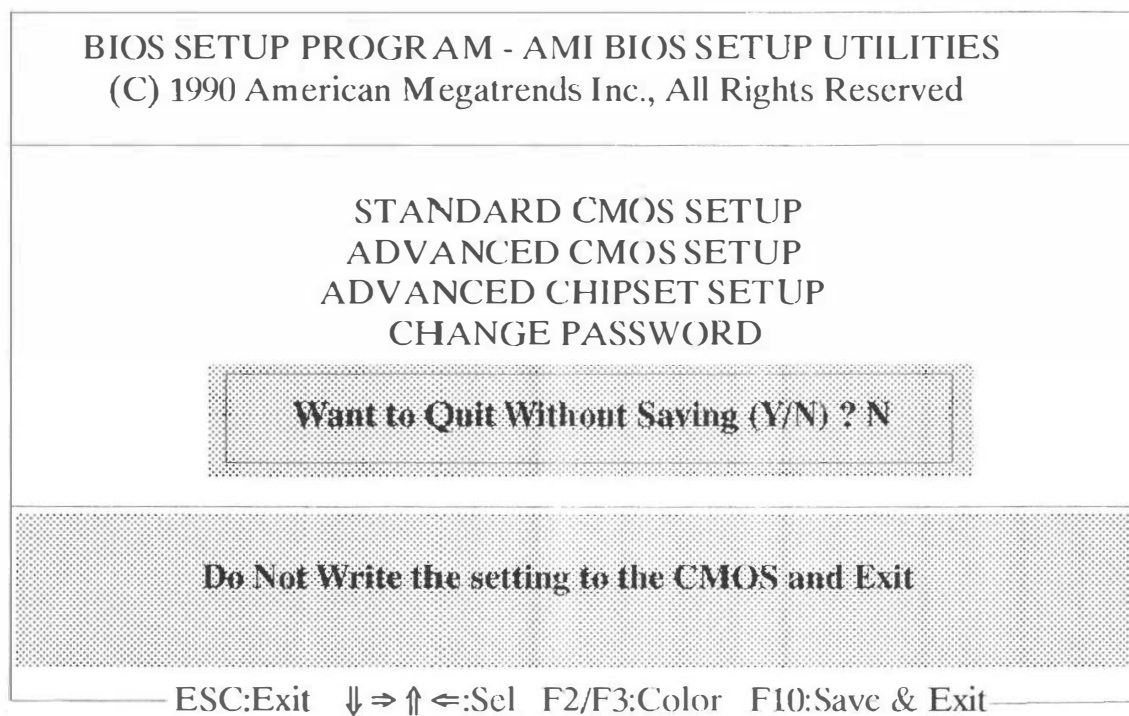

Fig 1-13
**T**his selection passes control back to BIOS without save any changes to the CMOS. (Fig 1-13)